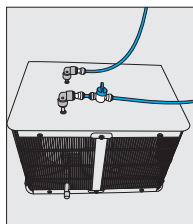
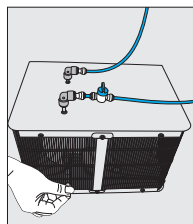

Figure 32
Figure 33
- 1.6 Turn off the water supply to the unit (Figure 32) and replace the drain cap (Figure 33).